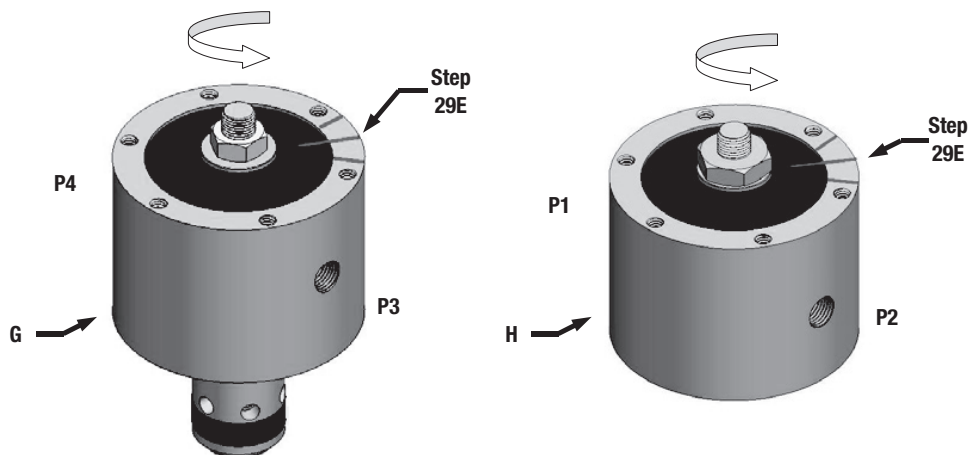

Figure 14
- Finally, by drawing a line exactly between the two lines on the Bodies (G and H), the diaphragm assembly can be centered using the existing line that was drawn on the Diaphragm (R) as shown in Figure 14.